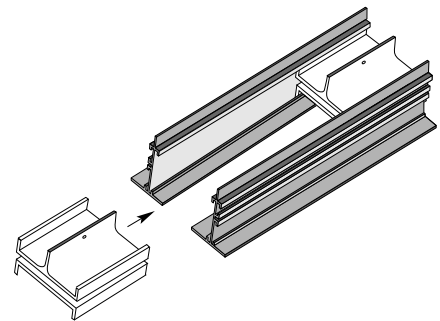

Figure 21. Replacement of Diffuser Spacer
- D. Slide both top and bottom spacers back into the Flowline™ frame as shown in Figure 21, beyond the cut mark to clear the saw blade.